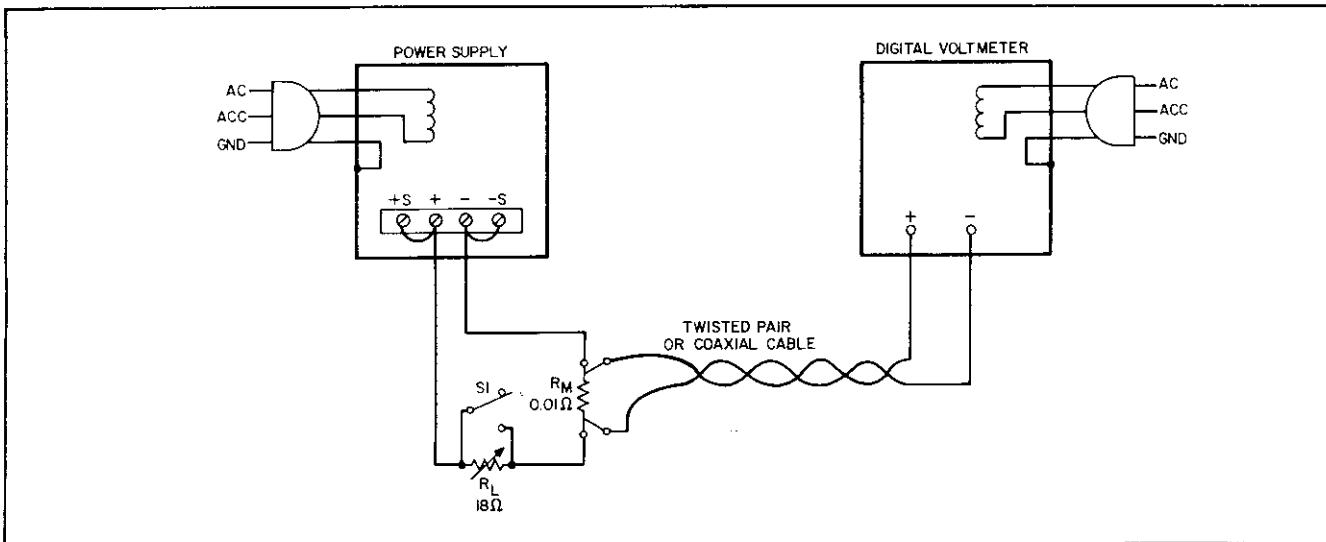

Figure 5-7. Constant-Current Test Setup
- a. Connect test setup shown in Figure 5-7. Set  $R_L$  to minimum resistance initially.
- a. Connect test setup shown in Figure 5-7.